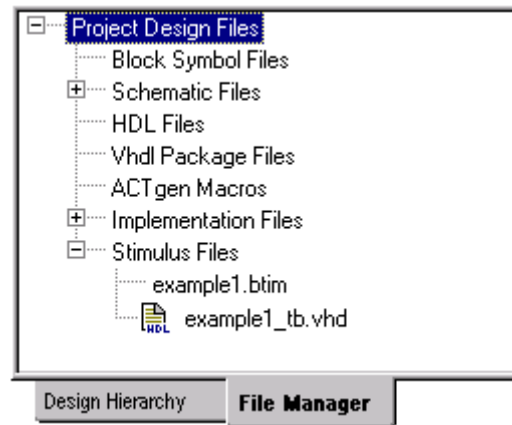

Figure 14 - Stimulus files in Libero IDE
7. The stimulus files are visible on the Libero IDE File Manager tab (Figure 14).